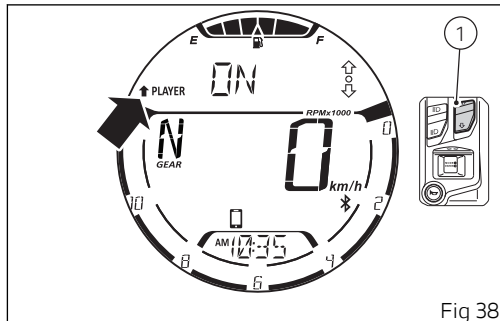

Fig 38
If the music player was activated (ON) and you exited the control to move to other functions, to reactivate the controls of the music player select the “Music player management (PLAYER)” function in the menu and press button (1) for 2 seconds (Fig 38).